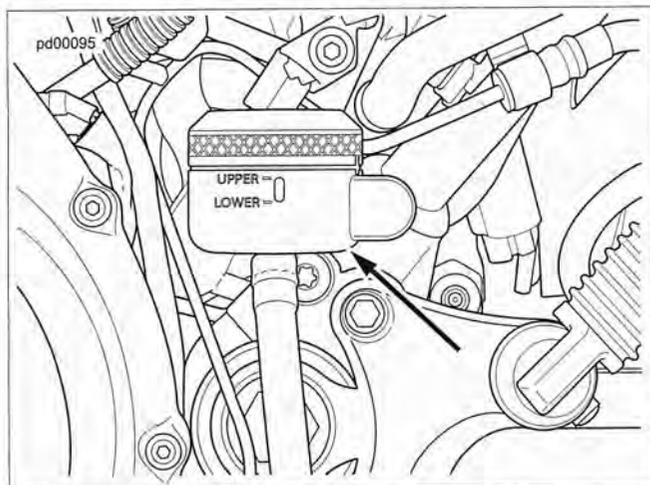

Figure 1-10. Rear Brake Master Cylinder Reservoir Cover (Typical XL Model Shown)
**XL Models:** See Figure 1-10. Rear brake reservoir cover may be removed to more easily verify fluid level in reservoir.